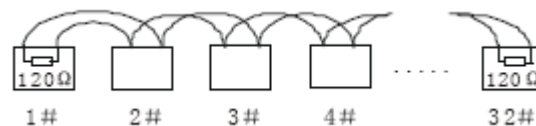

Figure 7-1
1) RS485 bus requires all devices use the following connection methods. Both terminals shall have  $120\Omega$  resistance. See Figure 7-1.